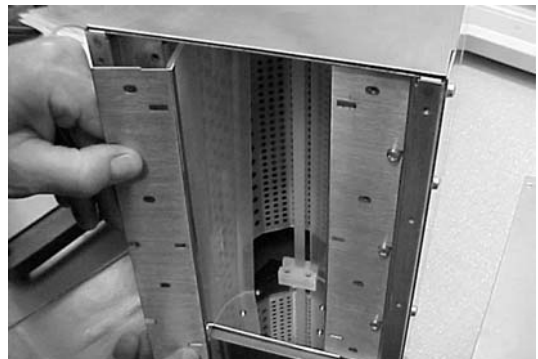

Figure 6-10 Flood Reflector Installation
**Flood Reflectors:** See Figure 6-10. The edge of the reflector sits on the springs between the curved retainers and the lip.